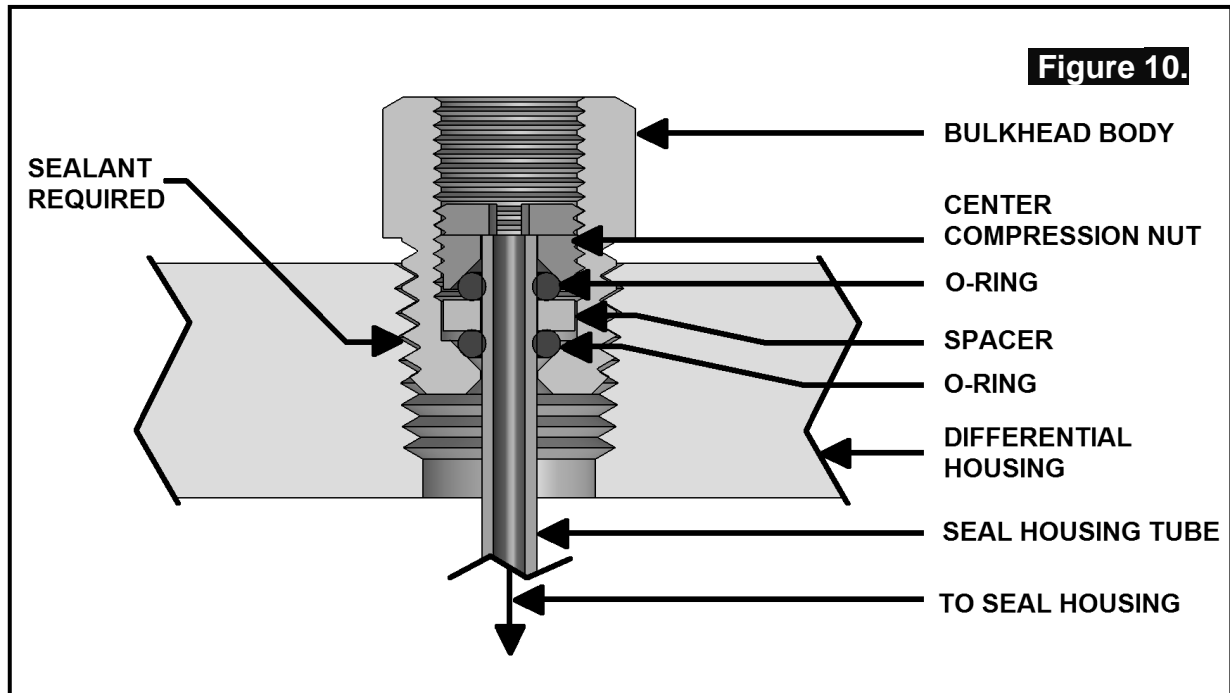

Figure 9.
- Without using sharp, jagged tools such as pliers (your hands are the best tool for this job), bend the seal housing tube to approximate the finished profile. This will allow the tube to be trimmed to a length that would allow it to protrude from the bulkhead fitting. (Fig. 9.)